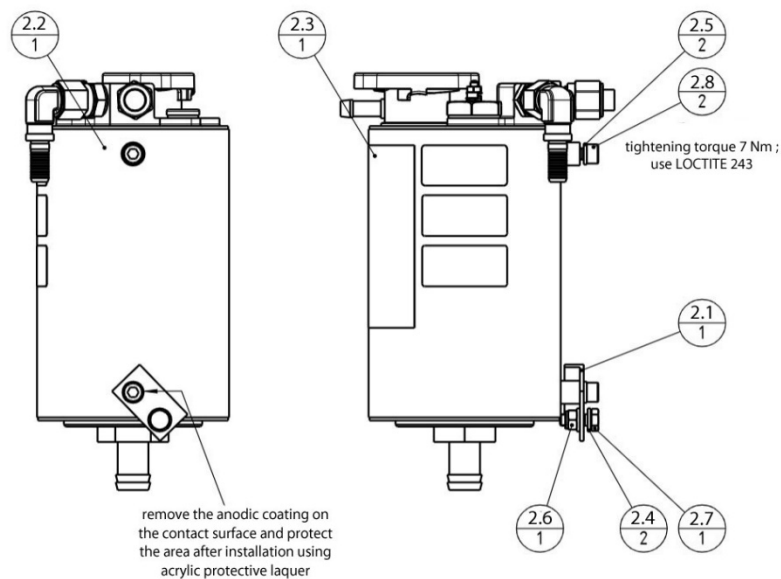

Figure 6: Expansion tank installation
- a) Install the expansion tank (item 2.2) using the installation set (item 2). Refer to figure 6 for detailed information.